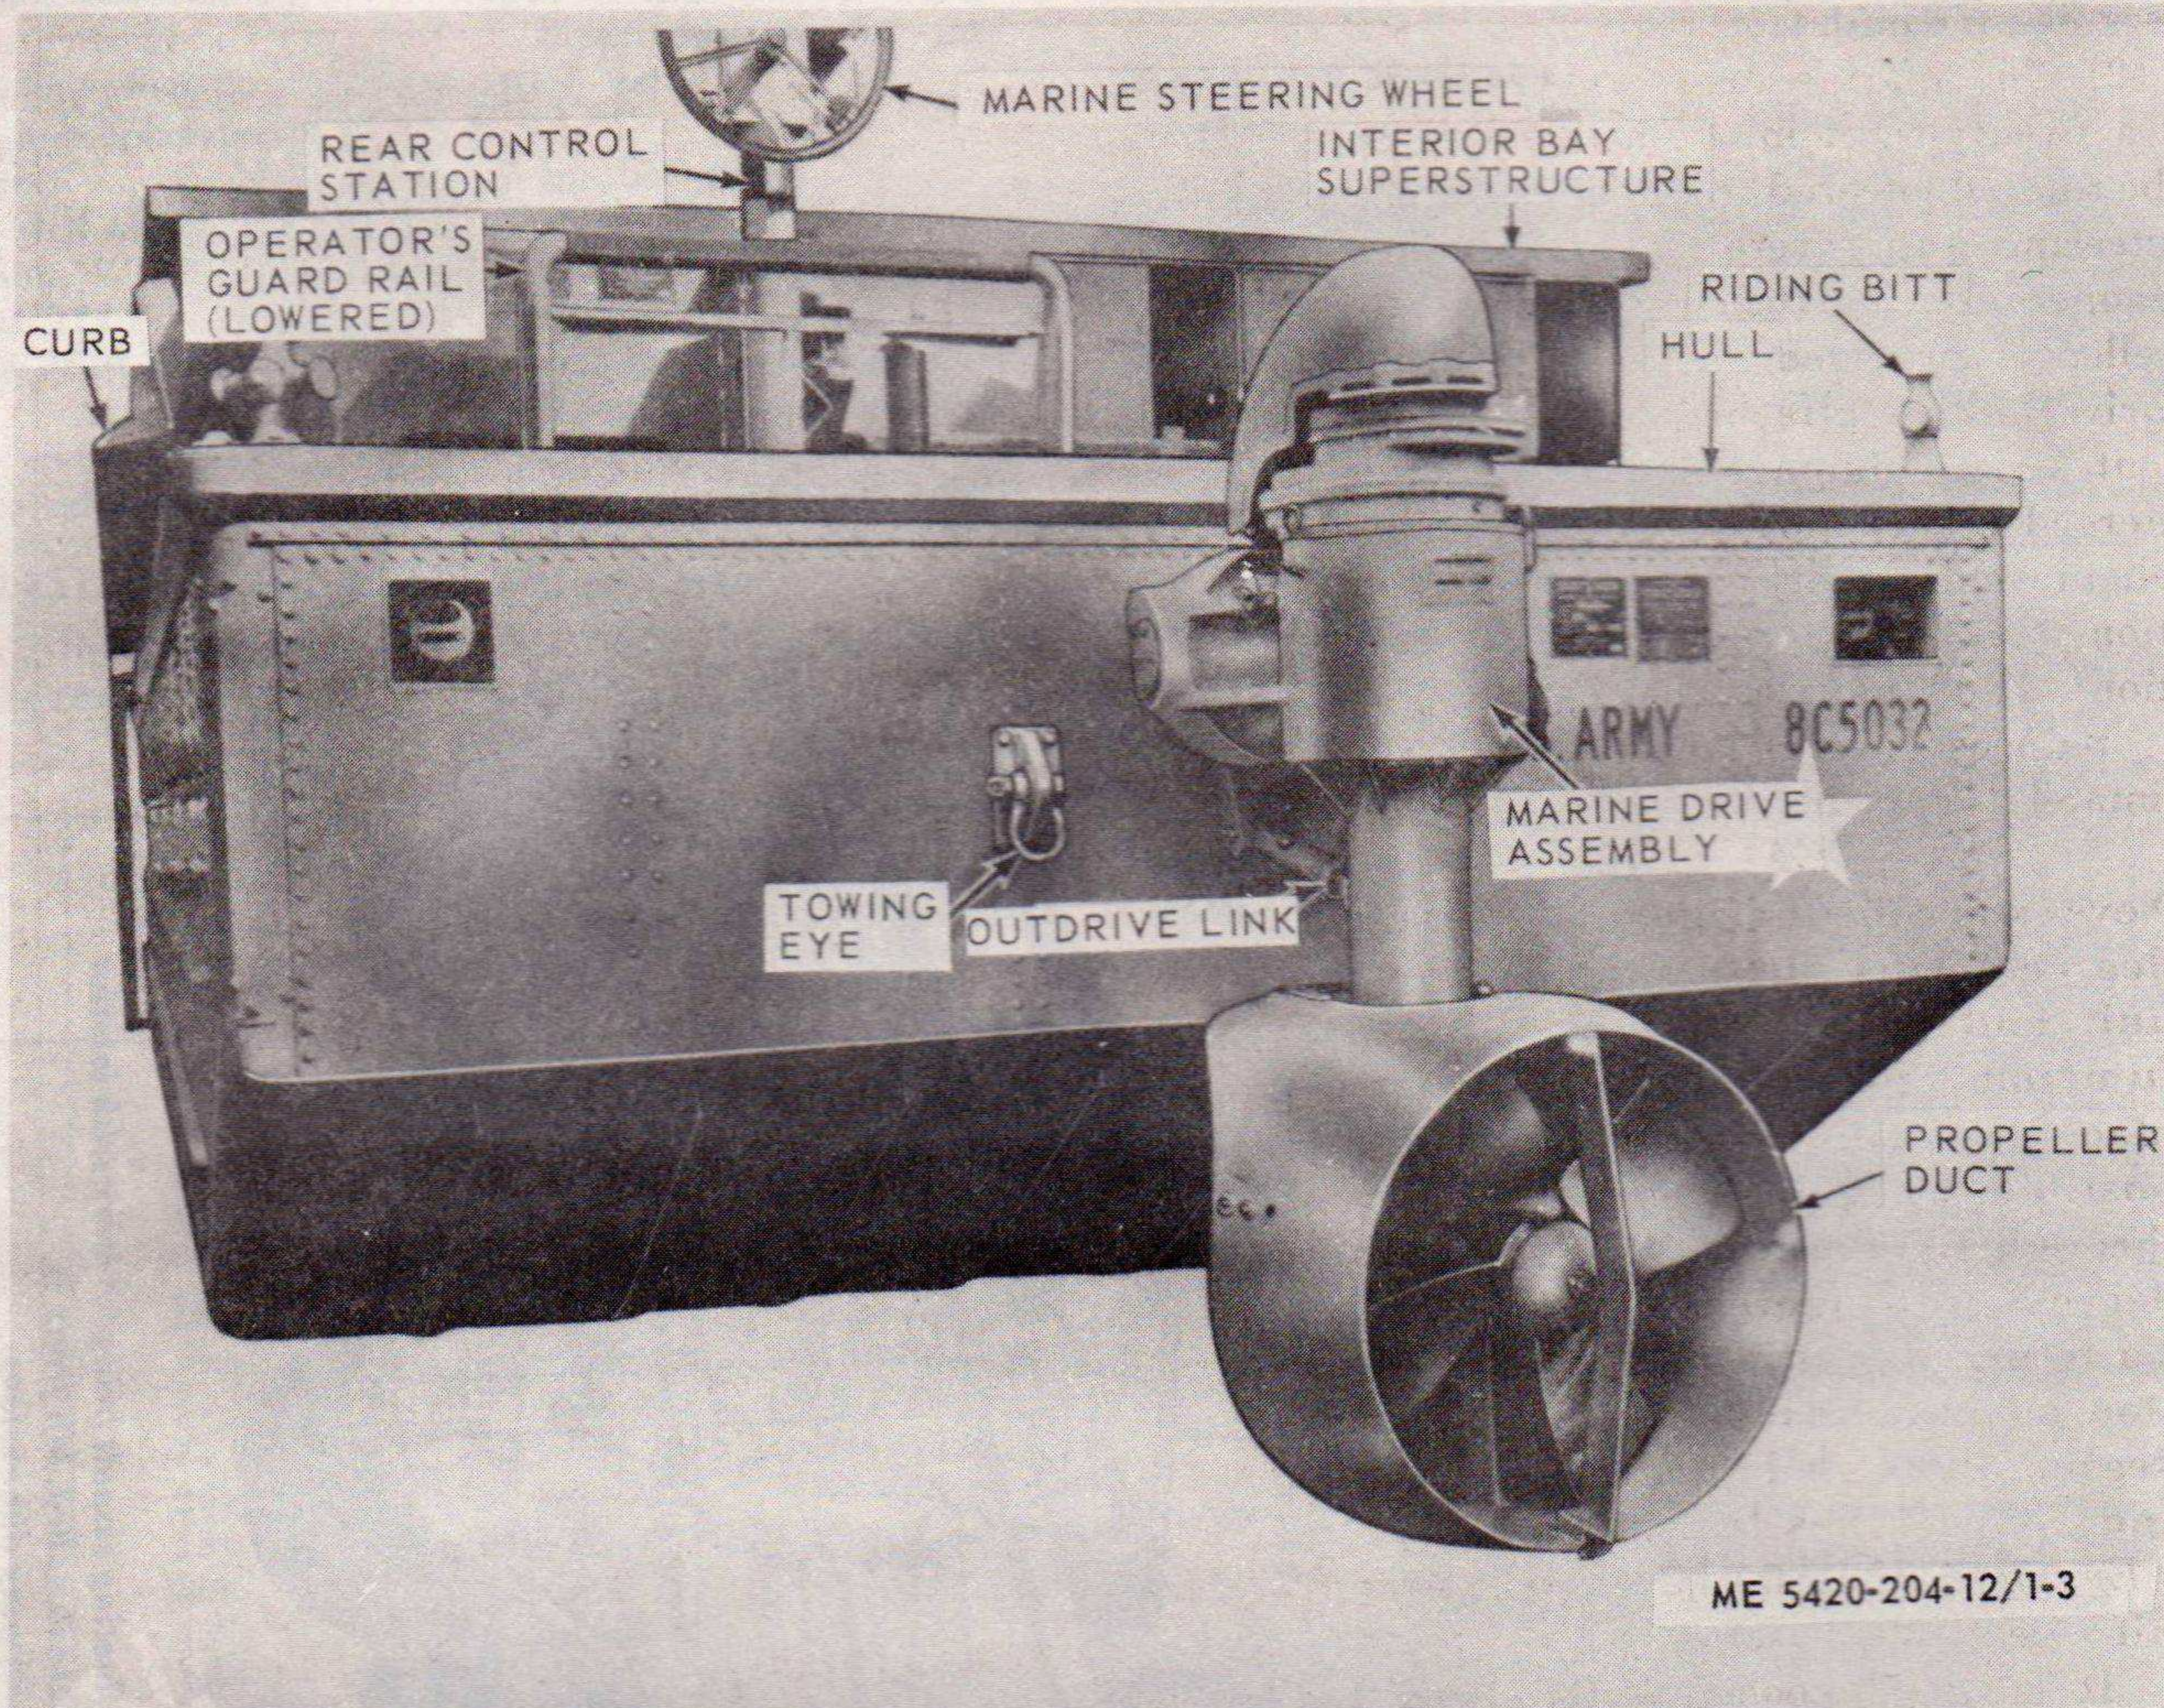

Figure 1-3. Transporter, mobile floating assault bridge—ferry, with marine drive installed, left rear $\frac{3}{4}$ view.
(2) The bridge / ferries are constructed of a number of identical transporters equipped with interior bay, or end bay superstructures (TM 5-5420-205-15). The superstructures are hydraulically rotated 90° on the transporter deck and hydraulically pinned together for bridging and ferrying operations. The folded ramp section of end bay units are vertically adjustable by means of a holding valve in conjunction with hydraulic cylinders, to meet varying shore conditions.
(3) The hull of the transporter is predominantly of riveted aluminum alloy construction. Each unit powered by a 335 HP (horse power) diesel engine with a six speed automatic transmission. The unit is equipped with four wheel drive, and front and rear wheel steering for maneuvering under adverse conditions. The wheels are fully retracted into the transporter hull for normal water operation. In water, the transporter is propelled by a stern mounted outboard marine drive unit (fig. 1-3), connected to the diesel engine by a mechanical drive line. When the marine drive
(1) The marine drive assembly, (fig. 1-3) is mounted at rear center of transporter and is used